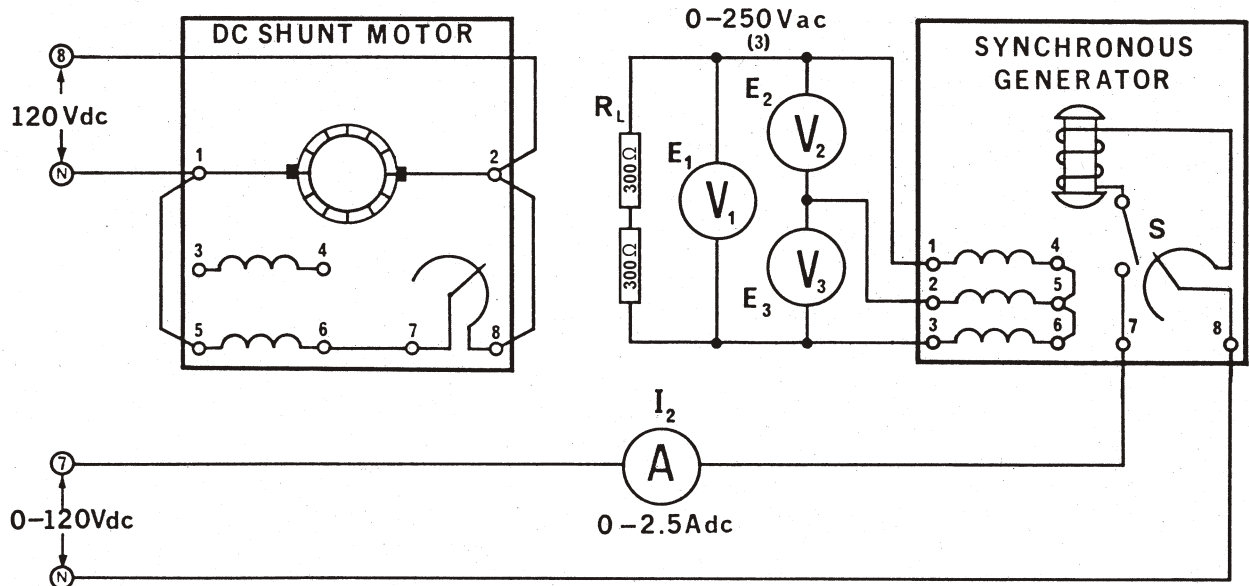

Figure 11-2.
- 7. a. Connect the circuit shown in Figure 11-2. Note that only one of the alternator phases has a load.